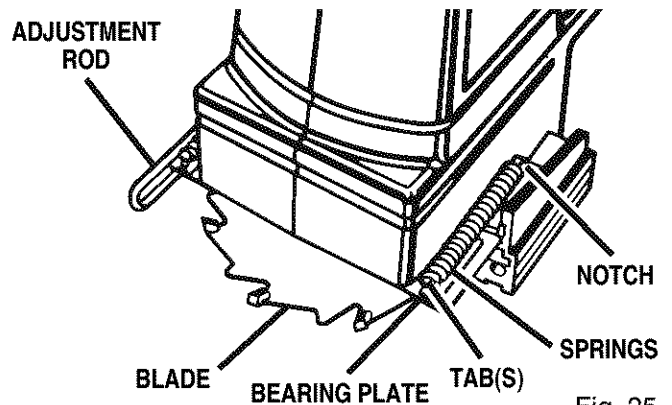

Fig. 25
- Using a pair of needle nose pliers, stretch and release springs from tabs on bearing plate. See Figure 25.
- Replace rear base assembly. Position adjustment rod in its proper place as shown in figure 25.